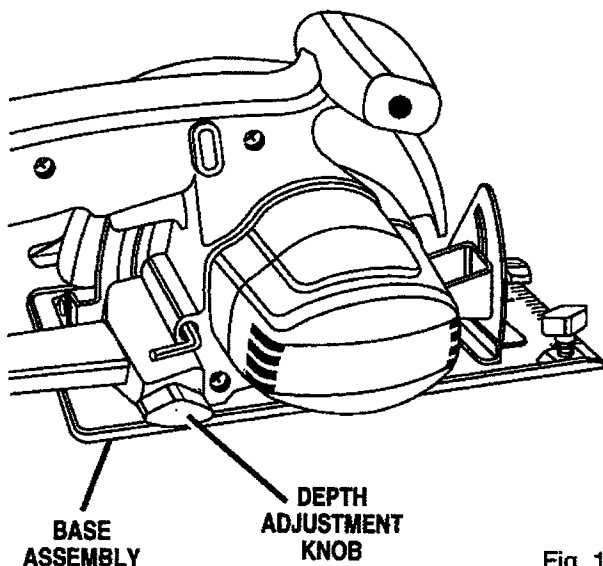

Fig. 11
- Loosen depth adjustment knob. *See Figure 11.*